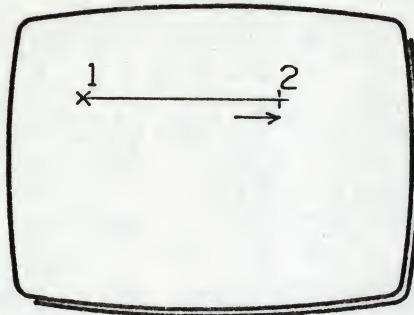

Fig 1
- 2 Start the figure by move XY to position the dynamic cursor at (1) in Fig 1.
- 4 Move XY to position the dynamic cursor at (2) in Fig 1.